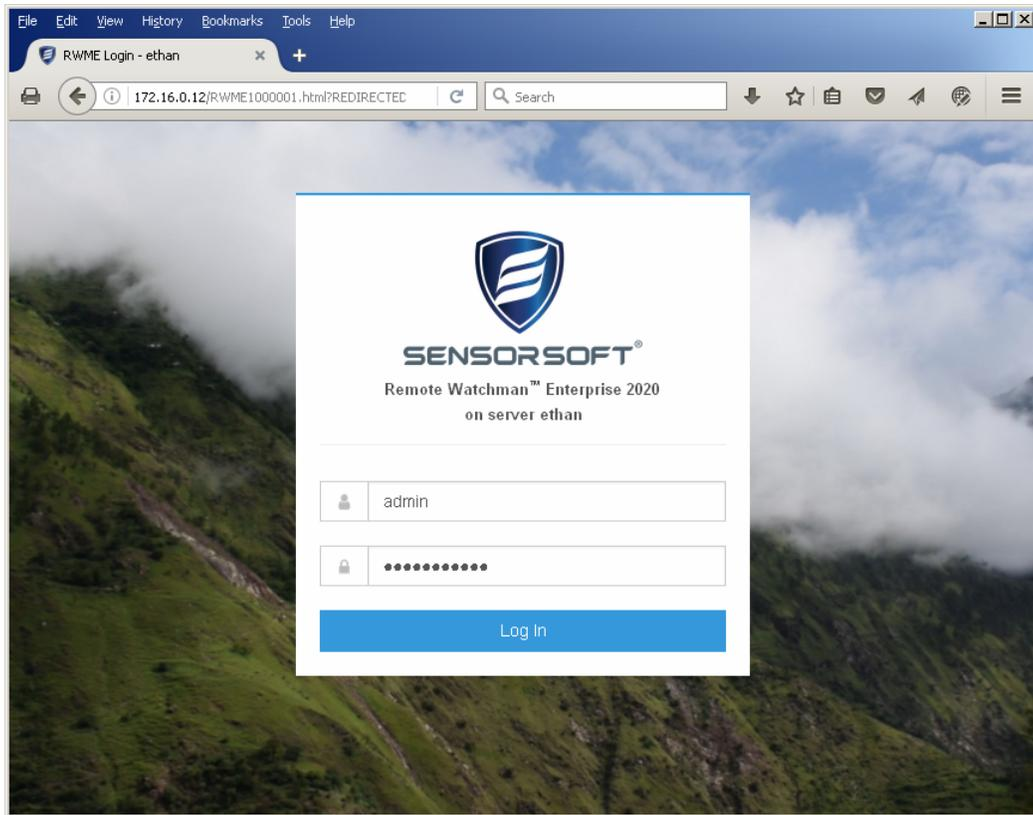

Figure 3: RWME Login page
You should see your web browser start and the RWME login page appear as in Figure 3. Then type in the username and password in the appropriate fields. The admin and ruser accounts have a default password of **begin**.
4. When the login page appears as shown in Figure 3, type in the username and password in the appropriate fields. The admin and ruser accounts have a default password of **begin**.